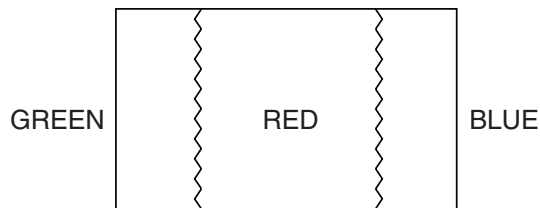

Fig. 5
6. Loosen the Ring Lock and adjust the Purity Magnets so that a red field is obtained at the center of the screen. Tighten Ring Lock. (See Fig. 5, 6.)